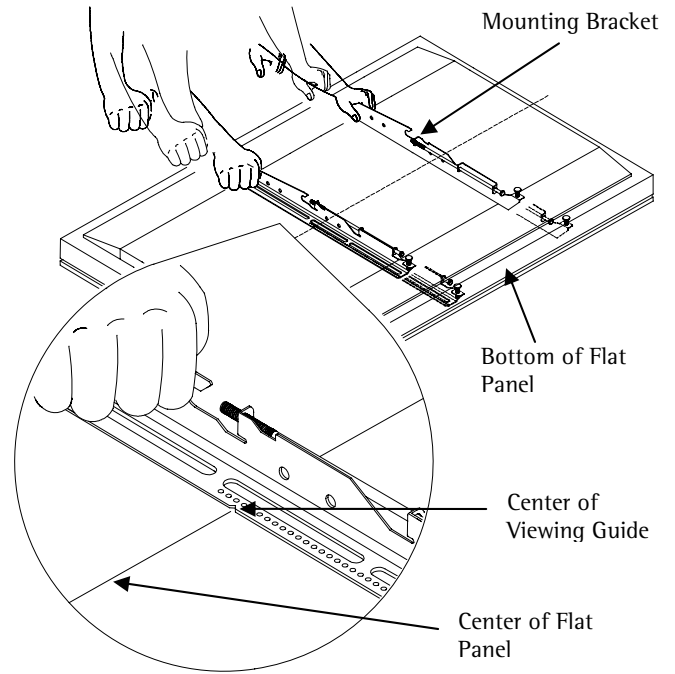

Figure 6
6. The mounting brackets are designed with a center of viewing guide on the side of them (Figure 6).